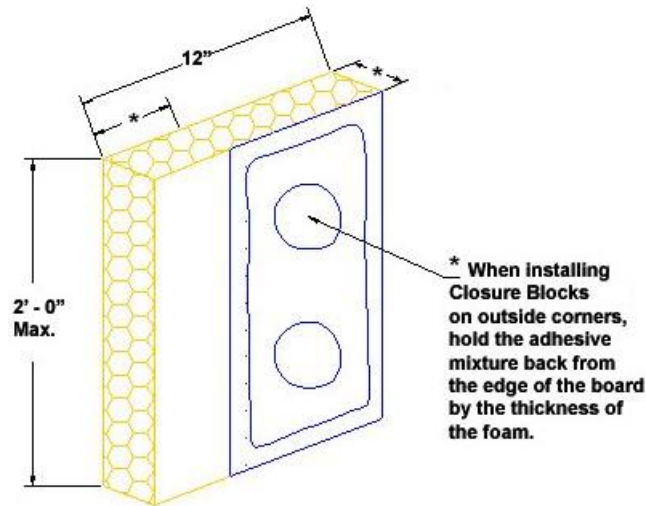

Fig. 18
- b. Apply the adhesive mixture to the back side of the Closure Block using a ribbon and dab pattern. When installing Closure Blocks on outside corners, hold the adhesive mixture back from the edge of the board by the thickness of the foam and position on the wall as shown in Figure 18.